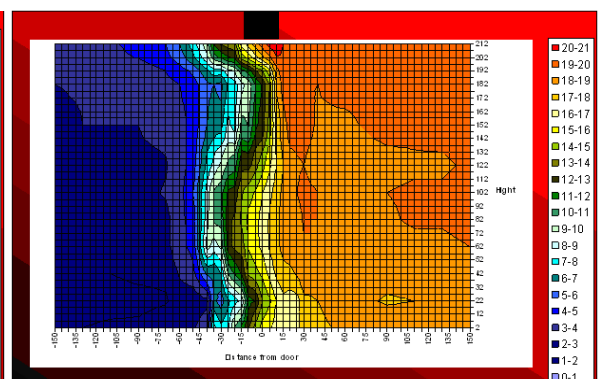

Fig. 4
- Fig. 4 shows the effectiveness of a correctly installed and selected air curtain,